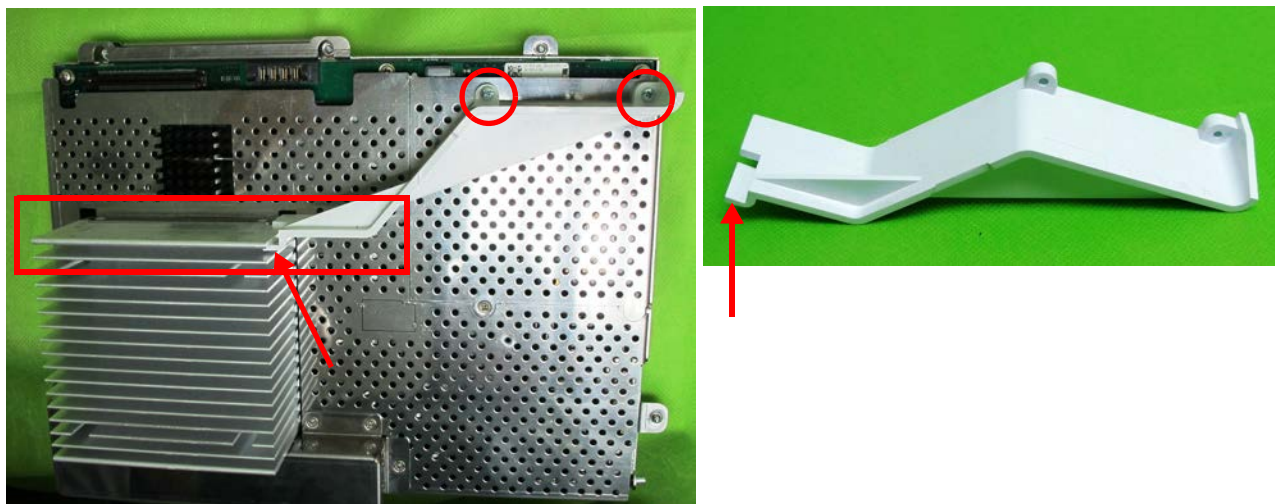

Figure 8-129 CPU Partition on BEP
NOTE: The CPU partition is located on the rear side of the BEP- see Figure 8-129.
3.) Remove the two securing screws (shown in Figure 8-129) that attach the CPU Partition to the BEP.
- 1) Install the replacement CPU Partition on the BEP gently sliding it into position so that its edge engages the BEP as shown in the rectangle in Figure 8-129.